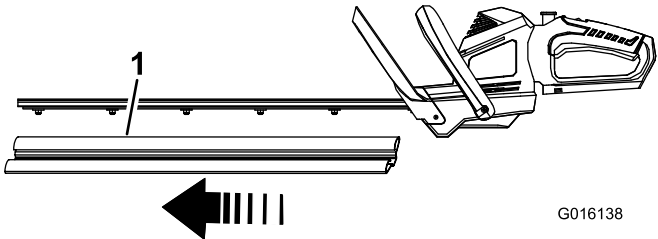

Figure 2
- 1. Remove the protective cover from the cutter blades (Figure 2).